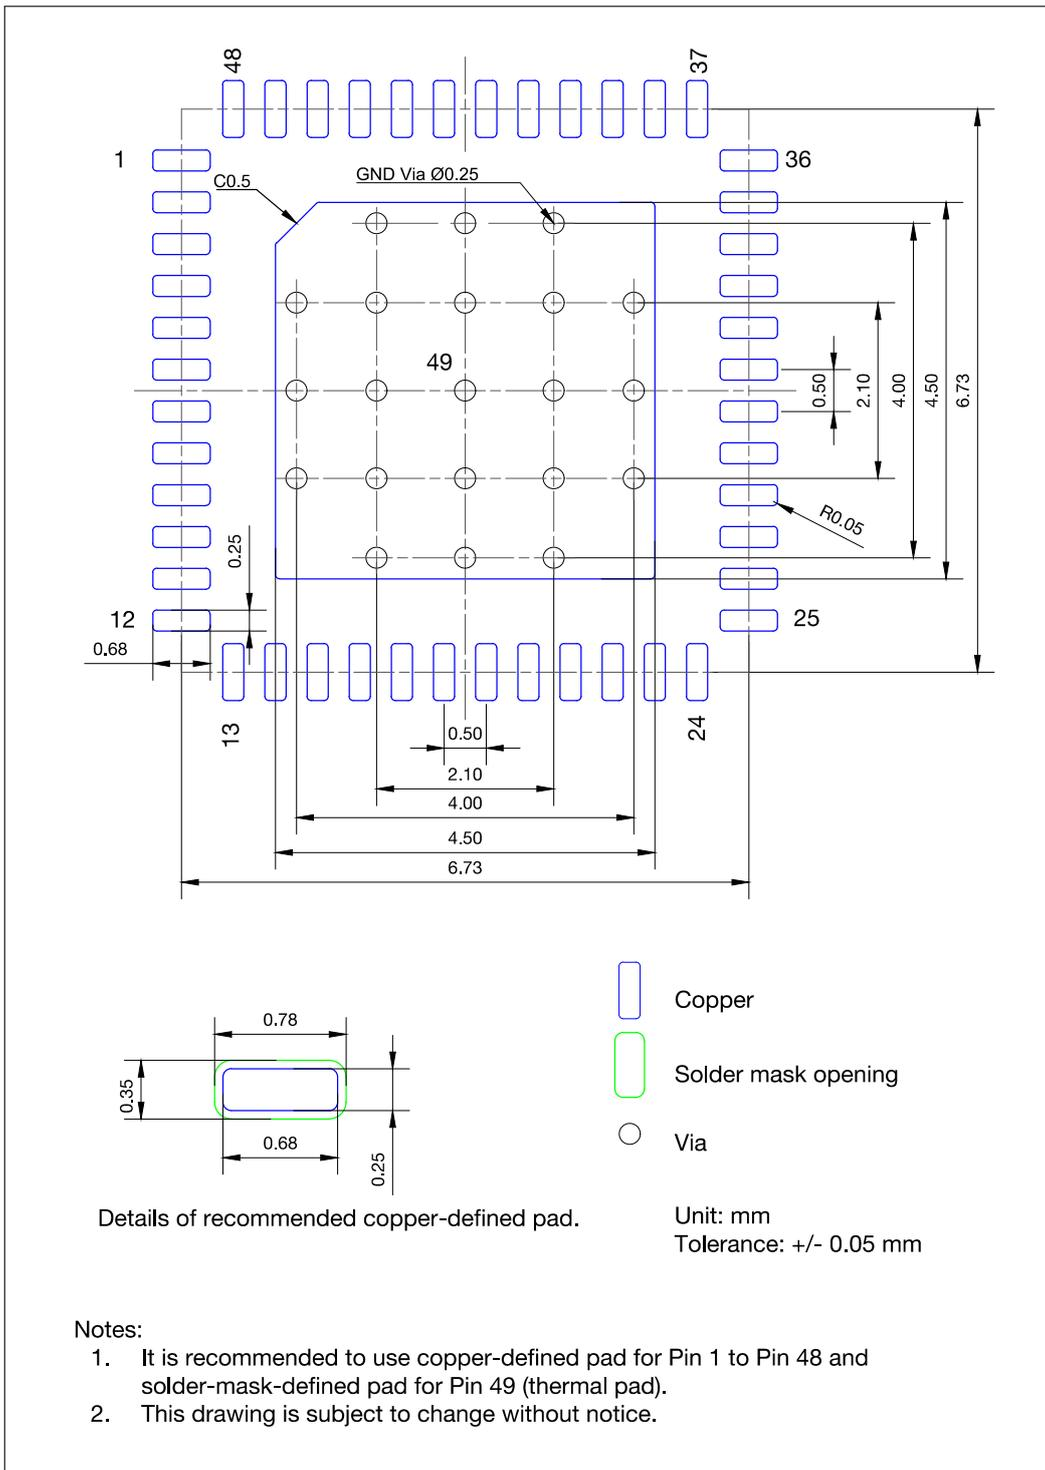

Figure 16: ESP32-PICO PCB Land Pattern
- Source files of recommended PCB land patterns to measure dimensions not covered in Figure 16. You can view the source files for ESP32-PICO-D4, ESP32-PICO-V3, and ESP2-PICO-V3-02 with Autodesk Viewer.